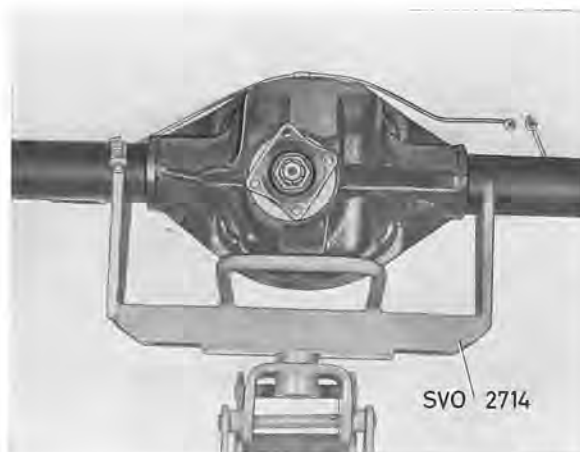

Fig. 4-170. Fixture for rear axle
1. Place the rear axle on fixture 2714, which is mounted on a garage jack, see Fig. 4-170. Move the rear axle in under the vehicle and fit on the bolts for the support arms and torque rods.